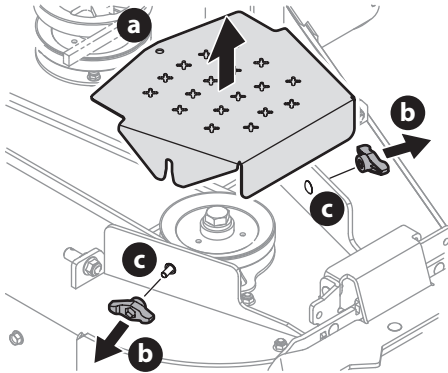

Figure 60
3. To remove the belt covers (a), remove the wing knobs (b) from the carriage screws (c) securing it to the deck (Figure 60).
4. The speed nut should hold the carriage screw (c) and tab bolt in place, if not re-install (Figure 60).